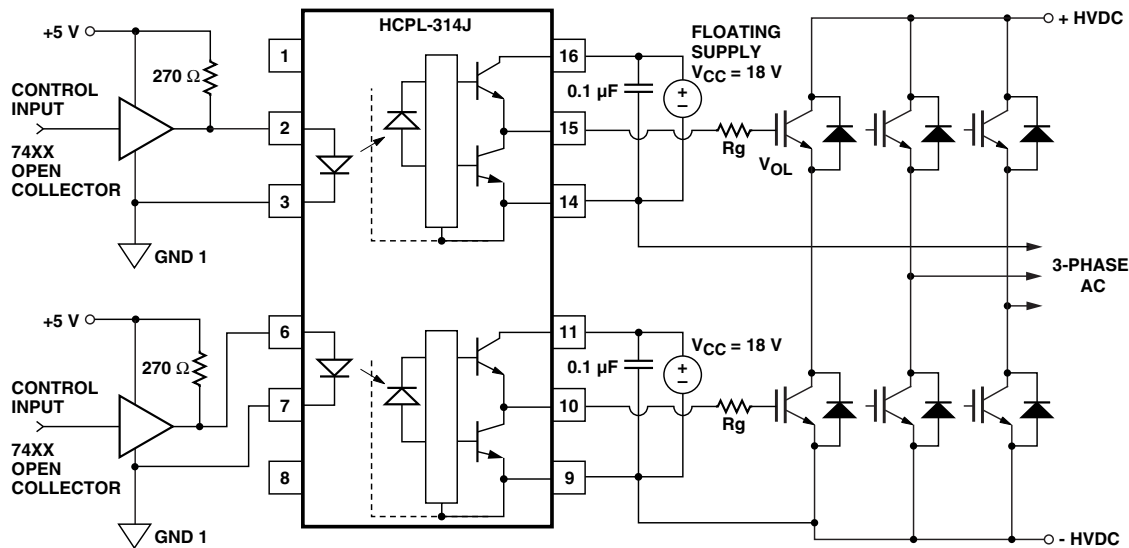
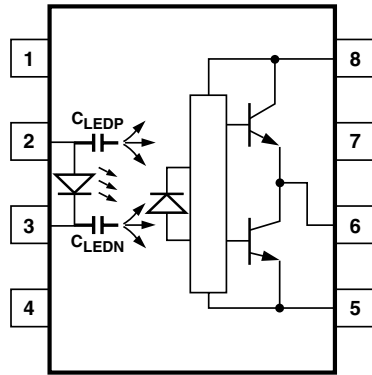
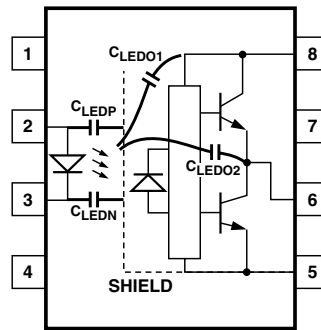
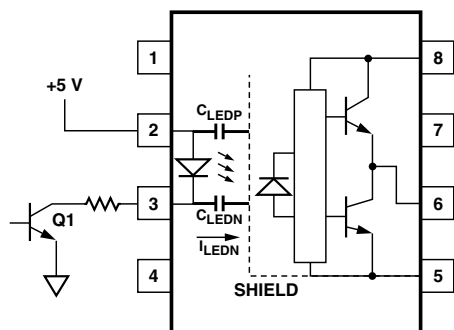

Figure 19. Recommended LED Drive and Application Circuit for HCPL-314J.
Figure 21. Optocoupler Input to Output Capacitance Model for Unshielded Optocouplers.
Figure 22. Optocoupler Input to Output Capacitance Model for Shielded Optocouplers.
Figure 24. Not Recommended Open Collector Drive Circuit.
To keep the IGBT firmly off, the HCPL-314J has a very low maximum V_{OL} specification of 1.0 V. Minimizing R_g and the lead inductance from the HCPL-314J to the IGBT gate and emitter (possibly by mounting the HCPL-314J on a small PC board directly above the IGBT) can eliminate the need for negative IGBT gate drive in many applications as shown in Figure 19. Care should be taken with such a PC board design to avoid routing the IGBT collector or emitter traces close to the HCPL-314J input as this can
result in unwanted coupling of transient signals into the input of HCPL-314J and degrade performance. (If the IGBT drain must be routed near the HCPL-314J input, then the LED should be reverse biased when in the off state, to prevent the transient signals coupled from the IGBT drain from turning on the HCPL-314J.) An external clamp diode may be connected between pins 14 & 15 and pins 9 & 10 (as shown in Figure 19) for the protection of HCPL-314J in the case of IGBTs switching inductive load.
Step 1: Calculate R_g minimum from the I_{OL} peak specification. The IGBT and R_g in Figure 24 can be analyzed as a simple RC circuit with a voltage supplied by the HCPL-314J.
where $K_{ICC} \cdot Q_g \cdot f$ is the increase in I_{CC} due to switching and K_{ICC} is a constant of 0.001 mA/(nC*kHz). For the circuit in Figure 19 with I_F (worst case) = 10 mA, R_g = 32 Ω, Max Duty Cycle = 80%, Q_g = 100 nC, f = 20 kHz and T_{AMAX} = 85°C:
Without a detector shield, the dominant cause of optocoupler CMR failure is capacitive coupling from the input side of the optocoupler, through the package, to the detector IC as shown in Figure 21. The HCPL-314J improves CMR performance by using a detector IC with an optically transparent Faraday shield, which diverts the capacitively coupled current away from the sensitive IC circuitry. However, this shield does not eliminate the capacitive coupling between the LED and optocoupler pins 5-8 as shown in Figure 22. This capacitive coupling causes perturbations in the LED current during common mode transients and becomes the major source of CMR failures for a shielded optocoupler. The main design objective of a high CMR LED drive circuit becomes keeping the LED in the proper state (on or off) during common mode transients. For example, the recommended application circuit (Figure 19), can achieve 10 kV/μs CMR while minimizing component complexity.
The open collector drive circuit, shown in Figure 24, can not keep the LED off during a $+dV_{CM}/dt$ transient, since all the current flowing through C_{LEDN} must be supplied by the LED, and it is not recommended for applications requiring ultra high CMR_1 performance. The alternative drive circuit which like the recommended application circuit (Figure 19), does achieve ultra high CMR performance by shunting the LED in the off state.